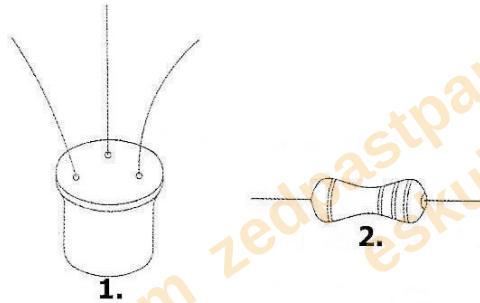

Figure 12
- (iii) Study the diagrams in **Figure 12**.